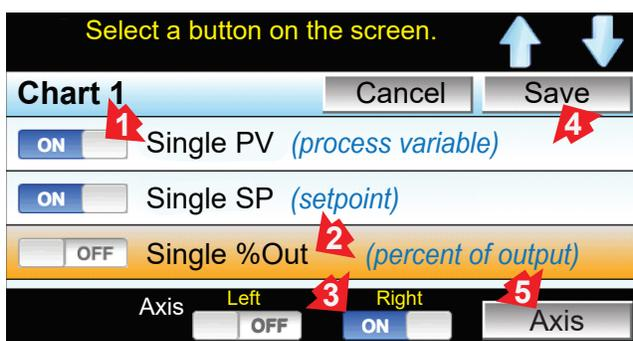

Figure 31. Chart Set Up Screen
- At Chart screen, touch (1)On/Off for data points required. Select (2)data point, then (3)On/Off for Left or Right axis. Touch (4)Save (5)Axis to adjust time and range. Right axis will not show if nothing is assigned to it (Figure 31).